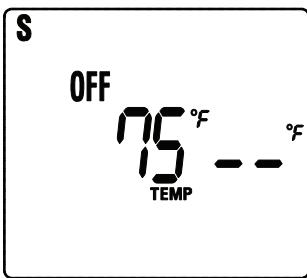

Fig. 8 OFF Mode
To operate the transmitter, first press the MODE button until the LCD screen reads OFF in the display (Fig. 8).
Step 4: Press the MODE button a fourth time to turn the appliance back OFF again as shown in Fig. 8.